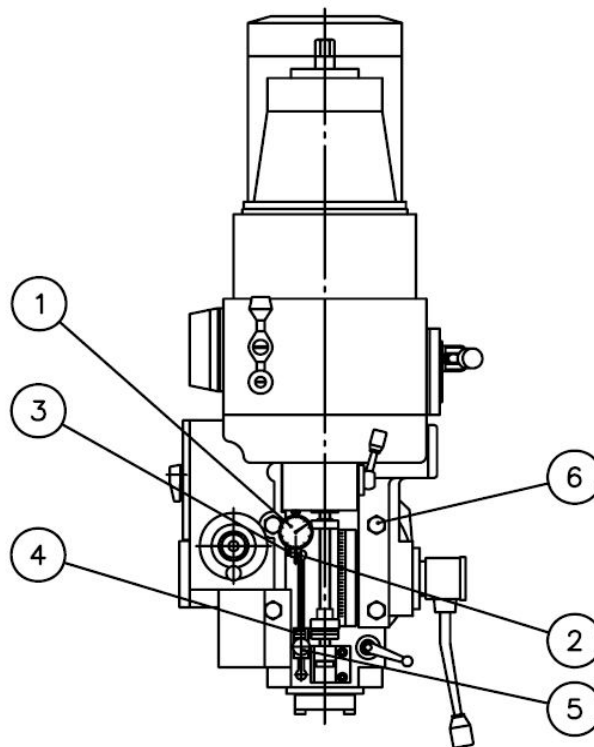

Fig.15
When accuracy is required in vertical feed, the micrometer (Fig.15 (1)) should be clamped to the indicator holder (Fig.15 (2)) with the clamping screw (Fig.15 (3)), and the indicator stopper (Fig.15 (4)) should be fixed at a suitable height by the fixing knob (Fig.15 (5)) to read a fine cutting amount.
- (1) Loosen the 4 bolts (Fig.15 (6)) at the front of the spindle head.